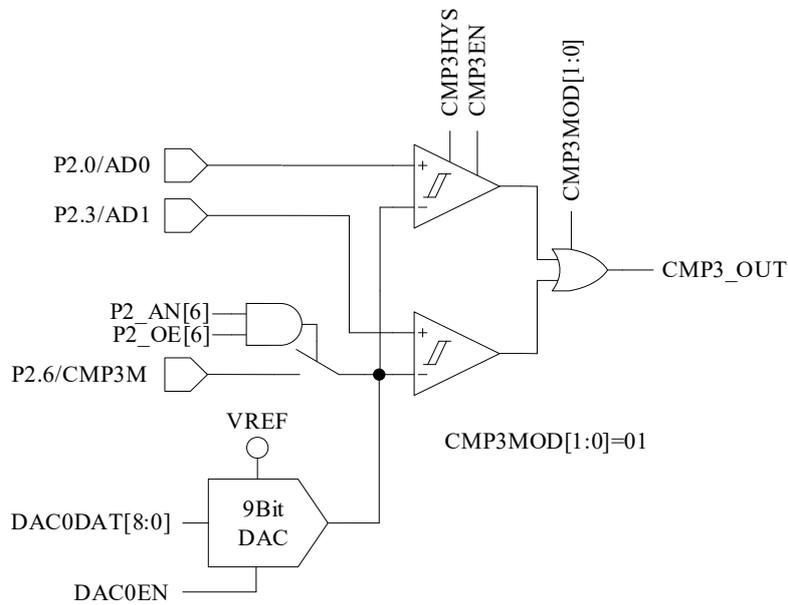

Figure 30-3 Dual-comparator Input Mode (FS9636AS does not support)
- When CMP_CR1[CMP3MOD] = 01, CMP3 works in dual-comparator input mode. The connection of input and output pins are shown in Figure 30-3.